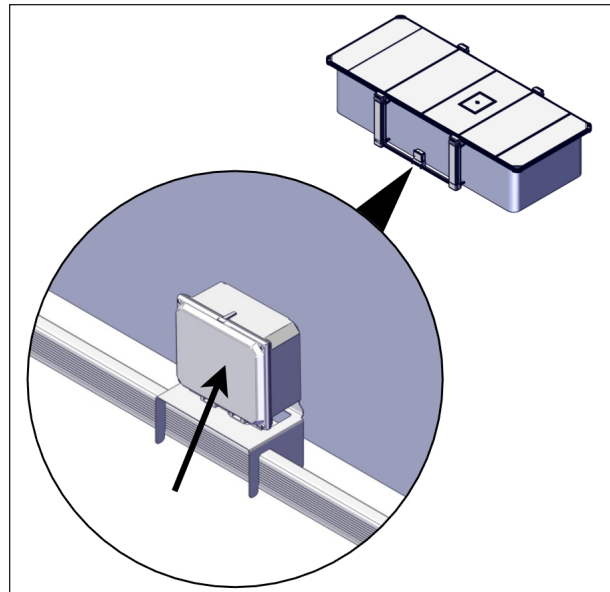

FIGURE 83: CONTROL BOX INSTALLATION
1. Install the pre-assembled control box and its holding bracket on one of the U-frames between the two sleeves, see Figure 83.
The AC control box must be installed in its vertical position. The connectors must face the ground, see Figure 83.